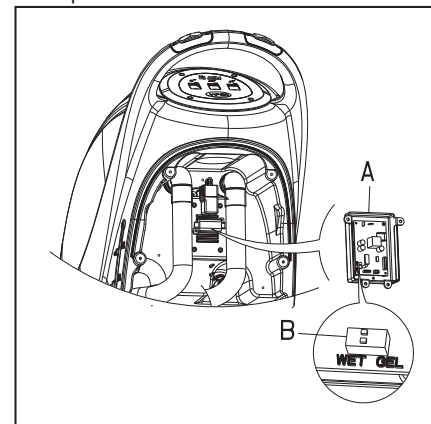

FIGURE 5
1. Make sure the battery connector (9) is disconnected. If the machine is based on "AGM" battery at the factory, go directly to Step 8; otherwise, complete Steps 2, 3, and 4.
2. Remove drain hose (15)
4. Take off the control cover (5), and the battery cover screws (10). Remove the screws on the PCB stand. The DIP switch (B) for setting the battery model can be seen when flipping over the PCB board. (See Figure 5)
5. Adjust the micro DIP switch (B) to the position of "WET",